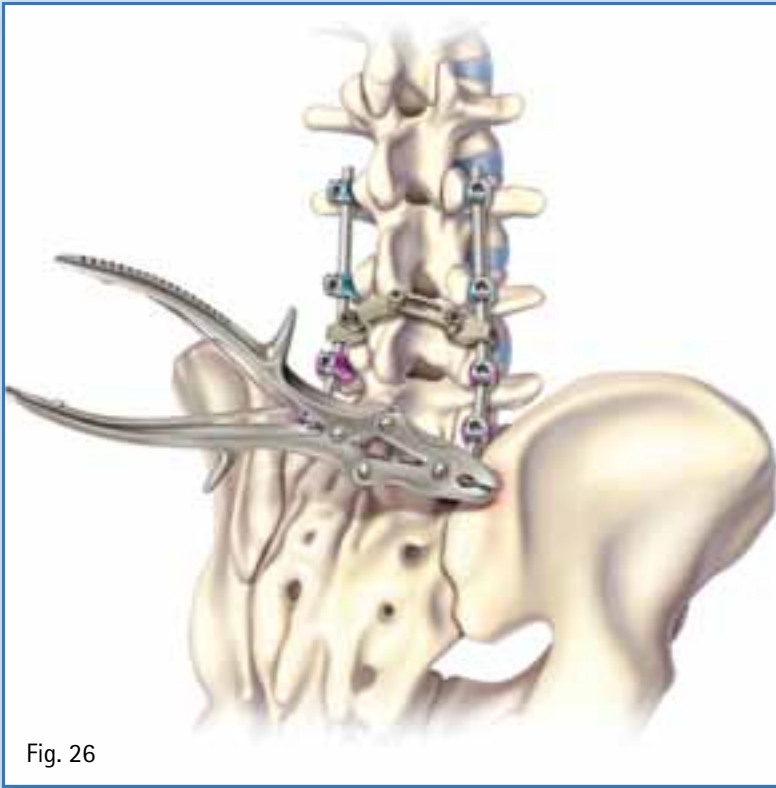

Fig. 26
- Use a rongeur to make a notch in the crest of sufficient length and depth for the head of the iliac screw. (Fig. 26)